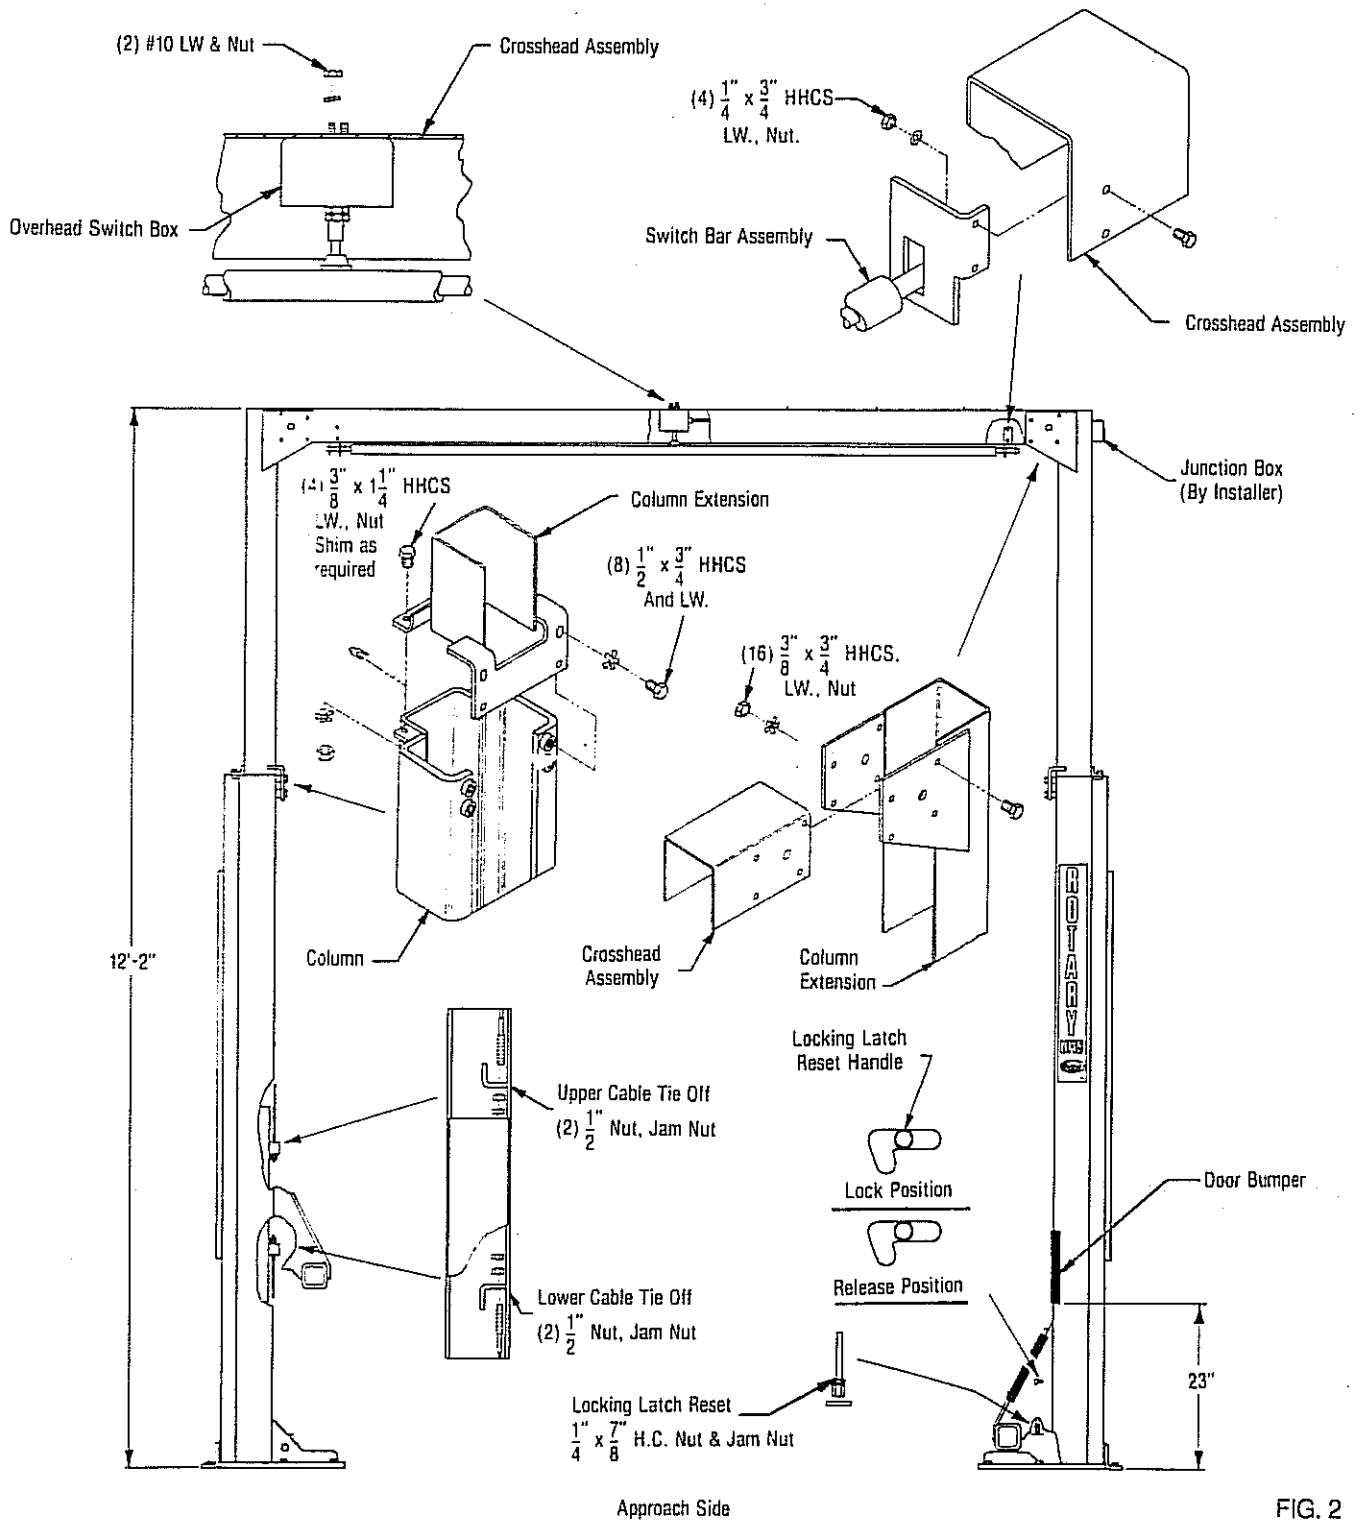
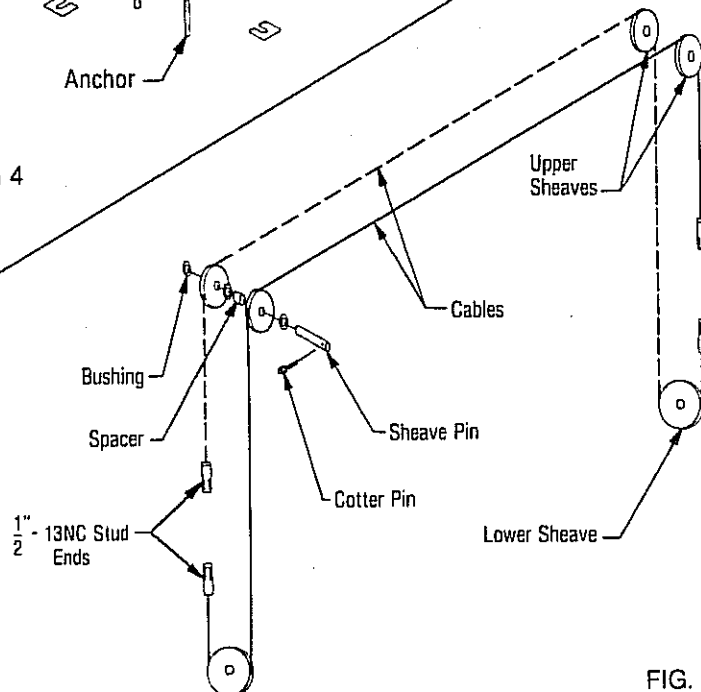

FIG. 2
FIG. 5
6. Install junction box (supplied by installer) on power unit side of column extension, Fig. 2. Attach box to column extension at (2) $\frac{1}{4}$ " holes near top of extension.
7. Install grommet in $\frac{7}{8}$ " dia. hole in crosshead assembly, Fig. 7. Install overhead switch using studs, nuts, and lock washers provided. Secure wire from overhead switch box to crosshead assembly using (5) wire ties and run wire out top through the grommet, Fig. 7. Install switch bar assembly with (4) $\frac{1}{4}$ " x $\frac{3}{4}$ " lg. HHCS, lock washers and nuts, Fig. 2.
8. Install column extensions using (8) $\frac{1}{2}$ " x $\frac{3}{4}$ " lg. HHCS, lock washers and (4) $\frac{3}{8}$ " x $1\frac{1}{4}$ " lg. HHCS, lock washers and nuts, Fig. 2. Shim column extensions plumb as required.
9. Raise power unit side of crosshead and install (2) $\frac{3}{8}$ " x $\frac{3}{4}$ " lg. HHCS, nuts and lock washers through upper corner of column extension and crosshead. Lift other side of crosshead and install (2) $\frac{3}{8}$ " x $\frac{3}{4}$ " lg. HHCS, nuts, and lock washers through upper corner of column extension and crosshead. Install remaining $\frac{3}{8}$ " x $\frac{3}{4}$ " lg. HHCS, nuts, and lock washers in crosshead and column extension, Fig. 2.
10. Install sheaves in crosshead assembly, Fig. 5.
12. ROPING: Fig. 5 describes general cable arrangement. It's easier to tie off lower studs first. Run nuts onto studs about 1", Fig. 2. Run cable overhead and tie off top studs torquing to about 100 in-lbs. Tighten jam nuts.
20. Lower lift to check locking latch reset. When fully lowered, reset device should center release handle in horizontal slot, Fig. 2. If required adjust reset with adjusting nut.
24. DECAL LOCATION: Clean area where decal is to be placed. Apply thin film of soapy water to beam. Remove backing from decal. Position and apply on column. Press out all air bubbles and moisture, Fig. 2.
7. Daily check locking latch reset and adjust, if required, per paragraph 20 and Fig. 2.